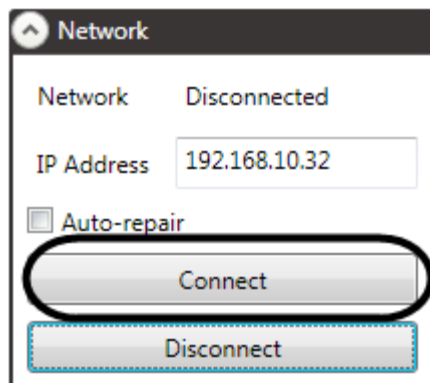

Figure 28
3. In the **Network** section of the **Motor Editing Pane** on the right side of the screen, enter the **IP Address** of your Stagehand Motor or FX and click **Connect** (Figure 28). *In this step, make sure you copy the IP Address exactly as it appears on the face panel of the **Stagehand** LCD display.*